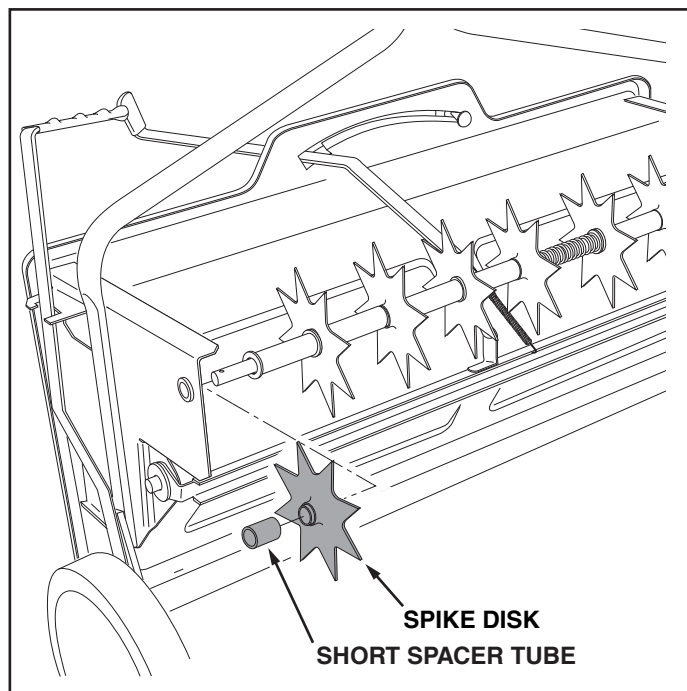

FIGURE 21
- Place a spike disk and a short spacer tube onto the shaft. Fit the short spacer tube onto the ends of the flanged bearings in the spike disk and in the end plate. Push the shaft on through the flanged bearing in the end plate. See figure 21.